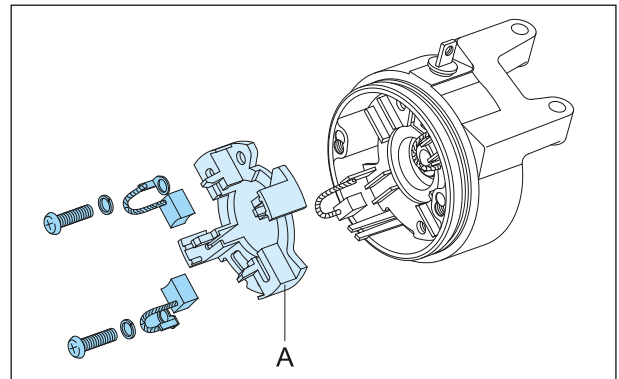

Fig. 6.47
- Mounting and take out the brush starter (2 nos.). (Fig. 6.47)
- Take out the plate brush holder (A) from the frame assembly commutator end. (Fig. 6.47)
- To change the carbon brushes, replace the old part with new brush box assembly kit from spare parts. (Fig. 6.47)